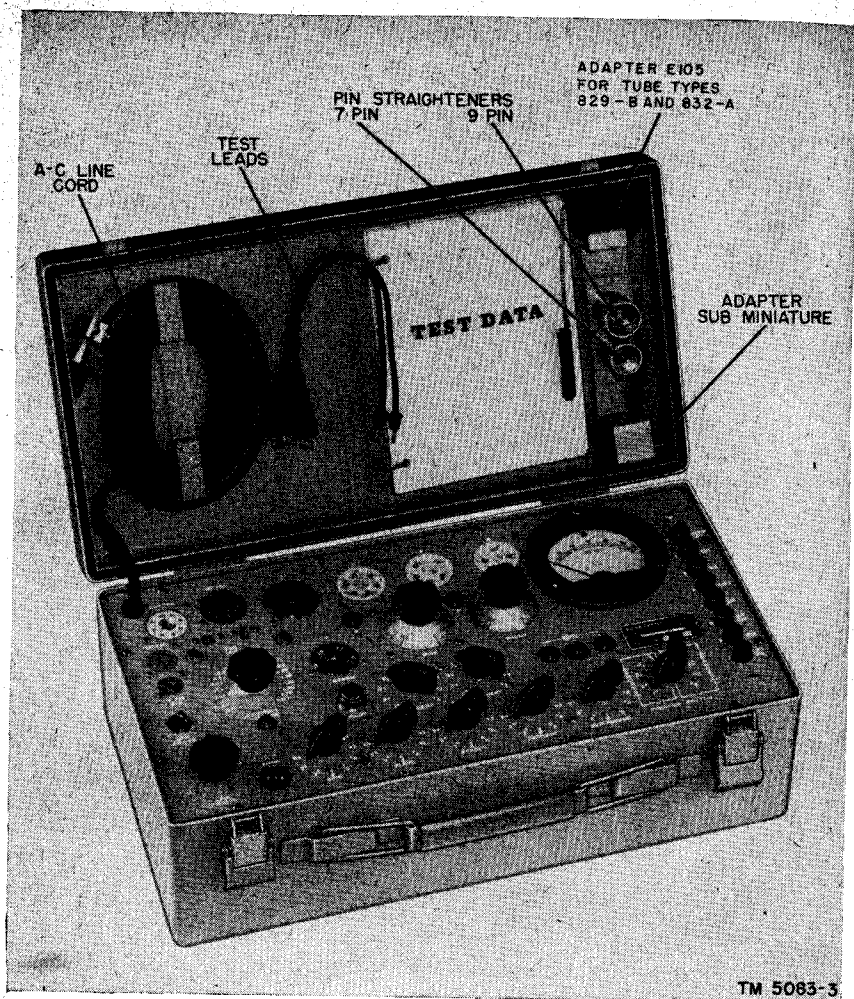

Figure 2. Electron Tube Test Set TV-7/U, with cover open.
- (1) Place the equipment on the workbench, near its final location.
- (2) Inspect for external damage which may have occurred during shipment.
- (3) Release the two catches and open the cover of the combination case.
- (4) Determine if all leads, adapters, and others parts are included (par. 6 and fig. 2).
- (5) Check all controls for ease of rotation.
- (6) The test set is shipped with the tubes installed. Check to see whether the tubes are seated firmly in their sockets only if the test set proves to be inoperative. To inspect the tubes, remove the equipment from its case. Refer to paragraph 45*d* for instructions.